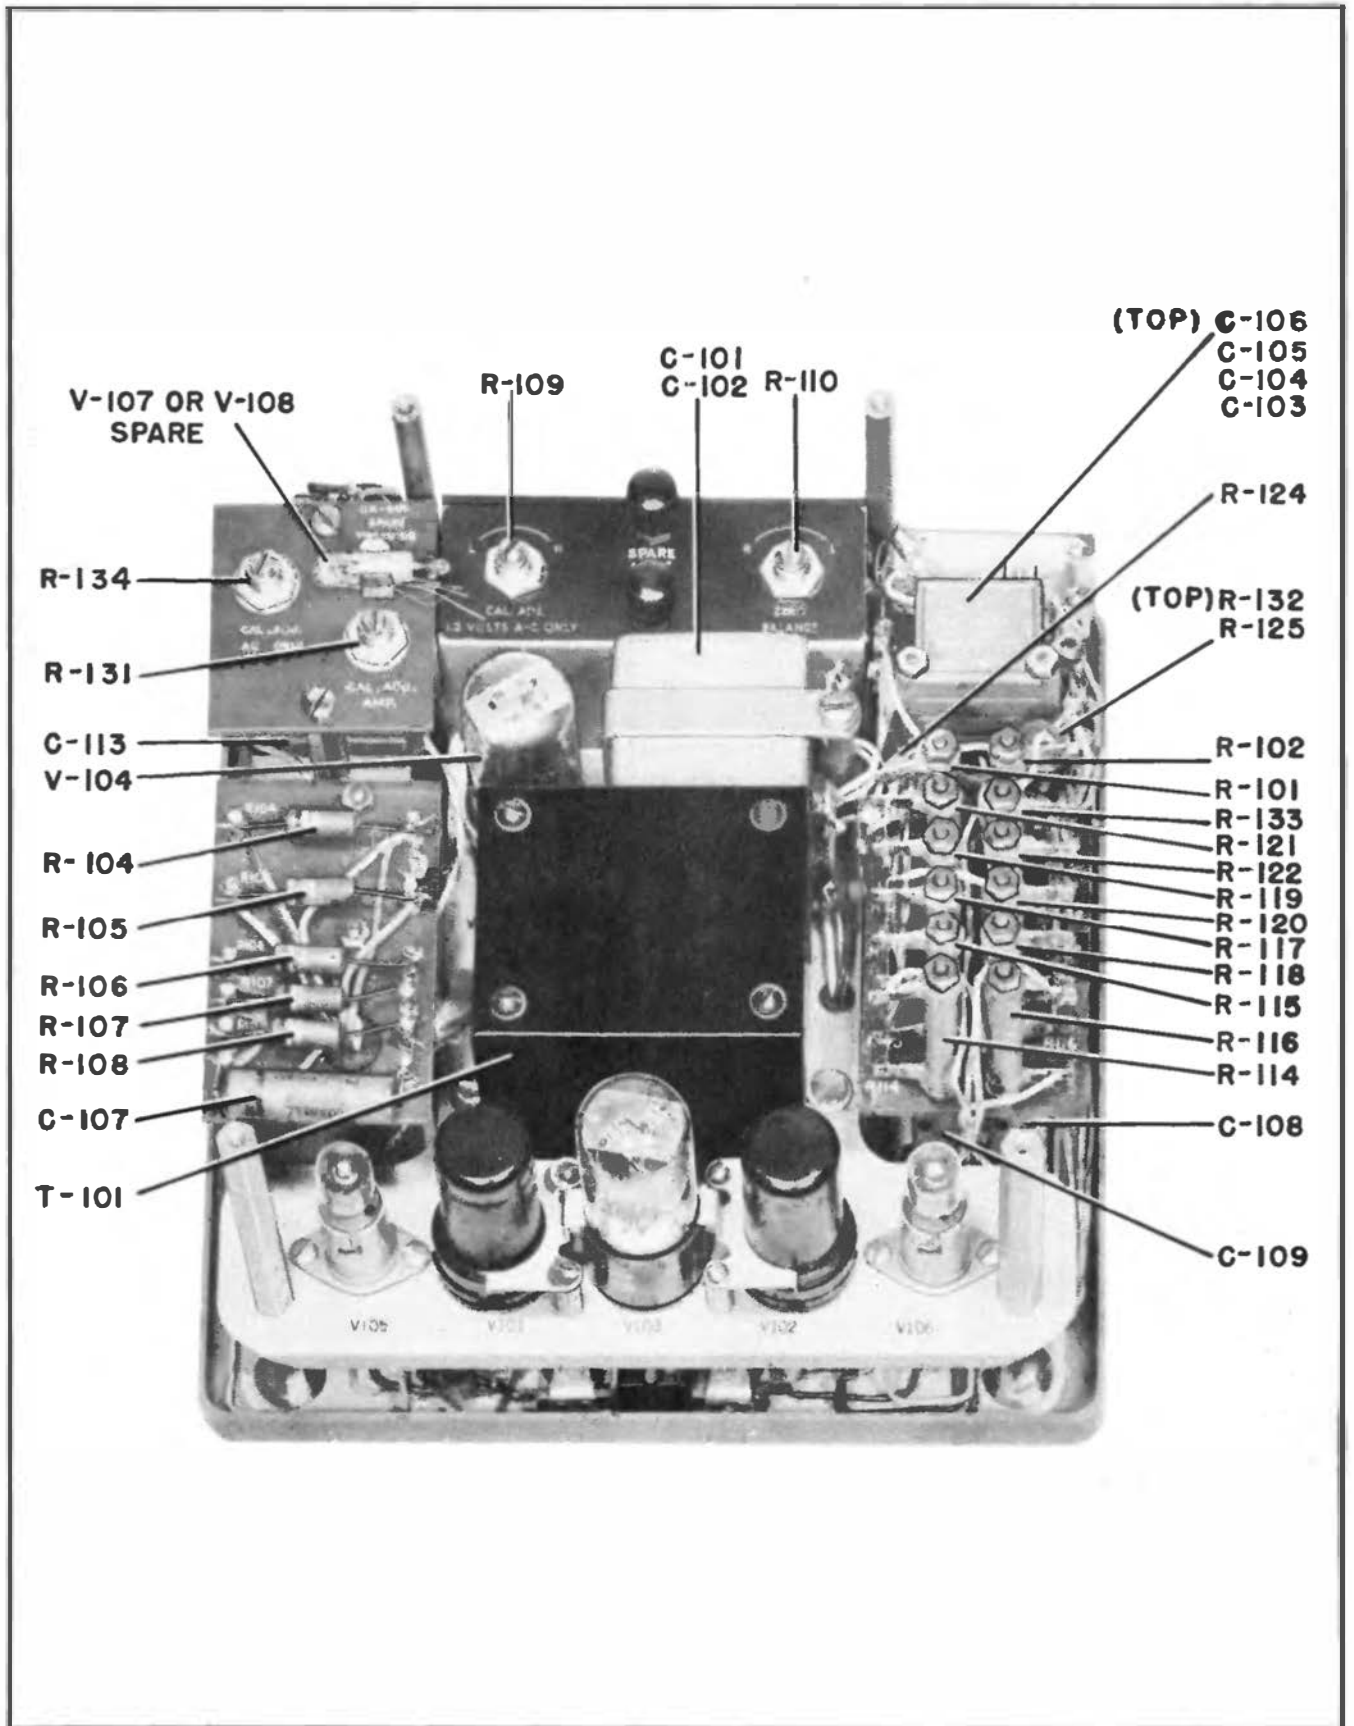

Figure 5-1A. Voltmeter TS-375A/U, Internal Rear Oblique View
(1) The TS-375A/U has two additional internal adjustments that are not in the TS-375/U (See figure 5-1A). R-131 is a 2,000 ohm rheostat with a screw driver slotted shaft that controls the amplifier gain within limits and will thus affect the top mark calibration of all d-c and a-c ranges. R-134 is a two megohm rheostat used to adjust the sensitivity of all the a-c ranges. Do not attempt to adjust these controls unless suitable laboratory standards are available to check all ranges and to follow these adjustments with the complete procedure described in paragraph (4b).